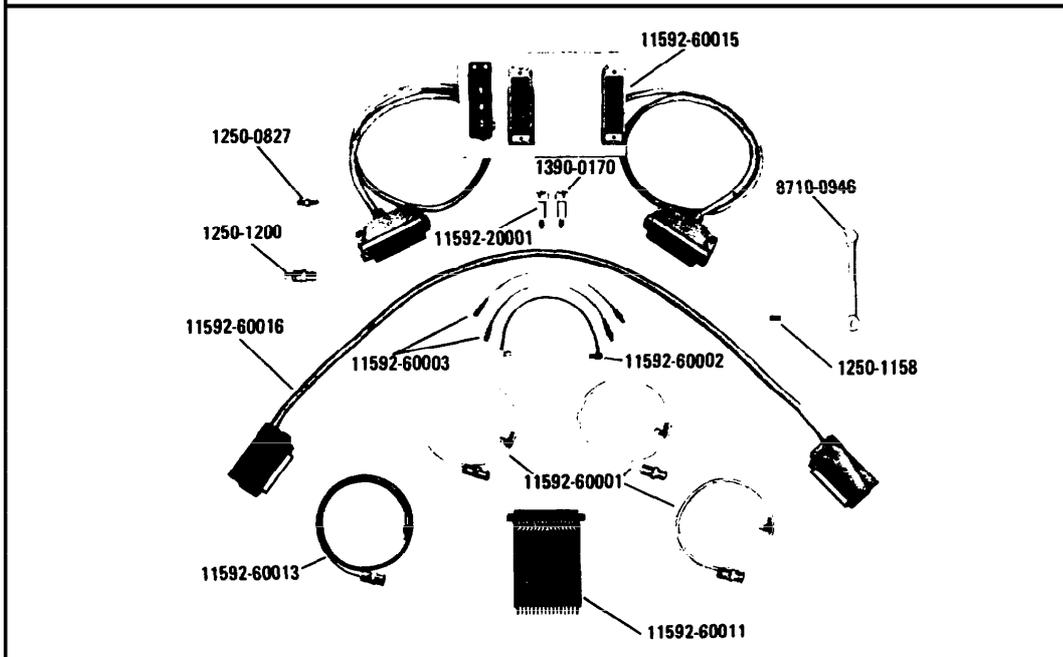

Figure 1-2. HP 11592A Service Kit Required for Maintenance
- a. HP 11592A Service Kit (shown in Figure 1-2).